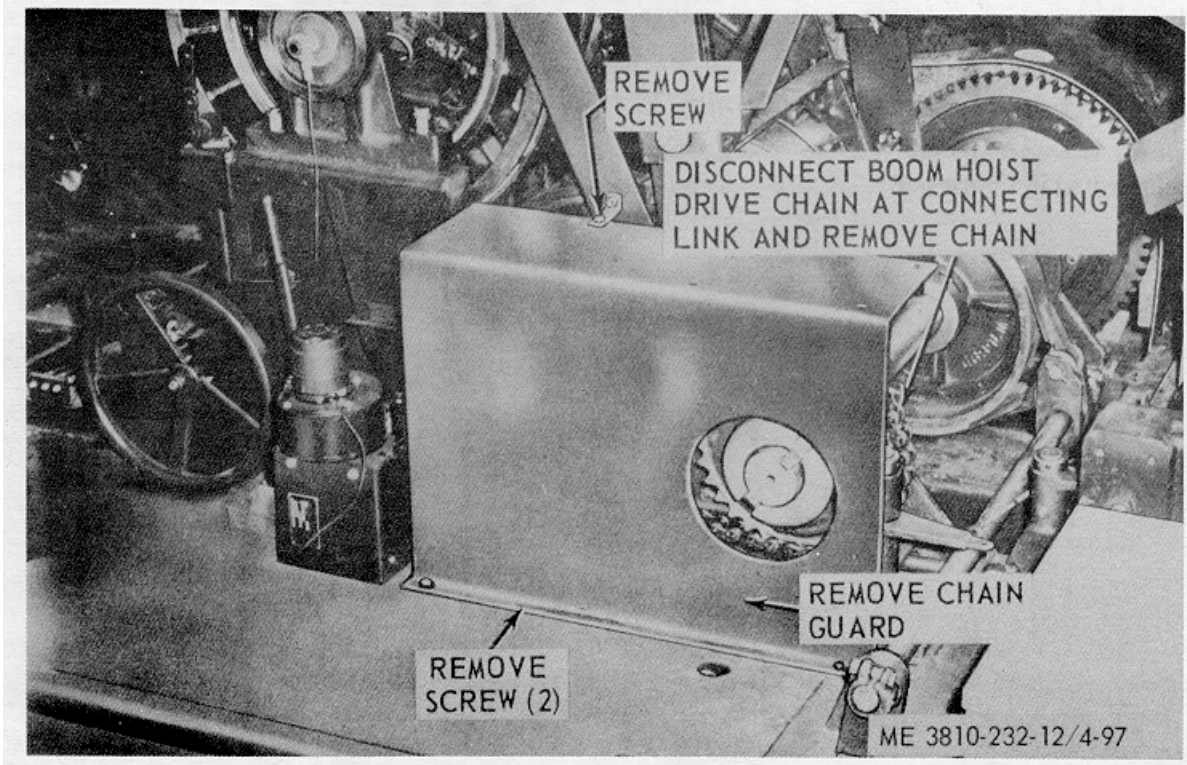

Figure 4-97. Boom hoist drive chain guard and chain, removal and installation.
a. *Removal.* Remove boom hoist drive chain guard and chain as illustrated in figure 4-97
- (2) Adjust this chain by removing a link or half-link as required.
- (3) Install chain guard as illustrated in figure 4-97